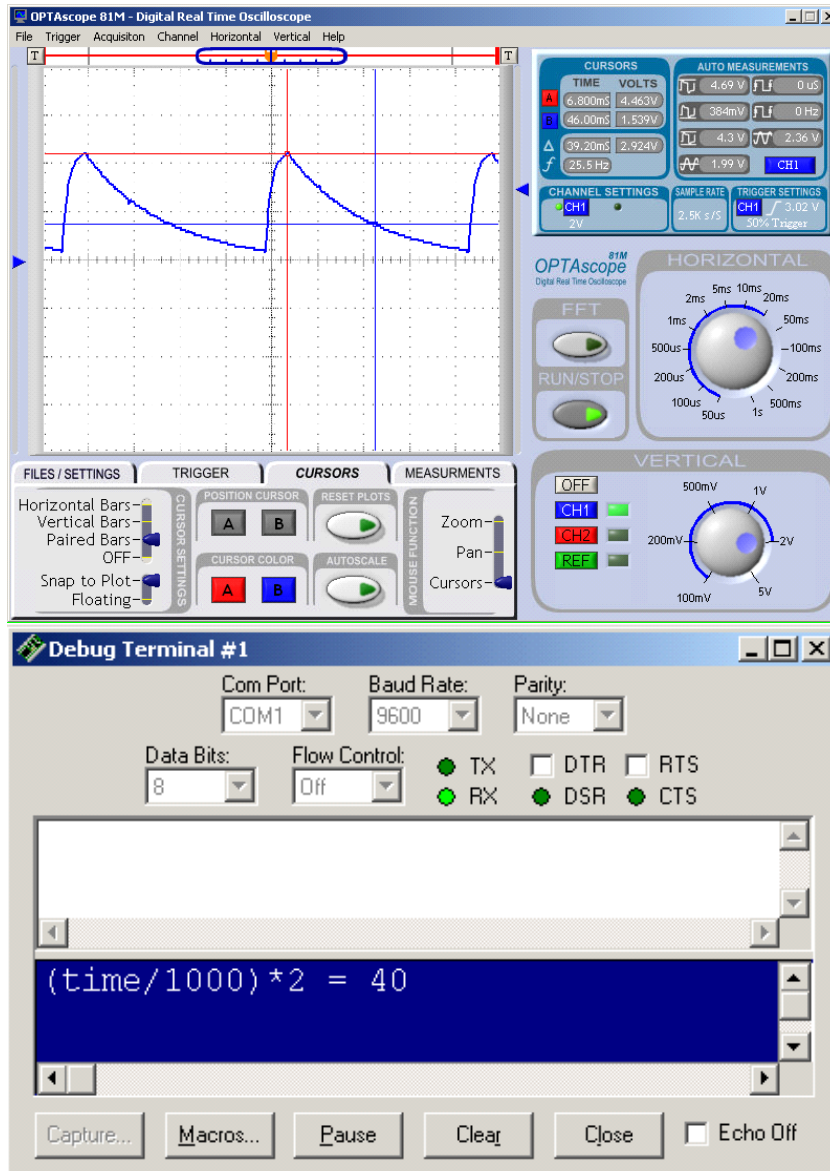

Figure 4-12: Using the Paired Bars cursors to measure capacitor discharge time
- √ Configure, resize, and reposition your PC display so the OPTAScope software is running side-by-side with the BASIC Stamp Debug display (Figure 4-12).